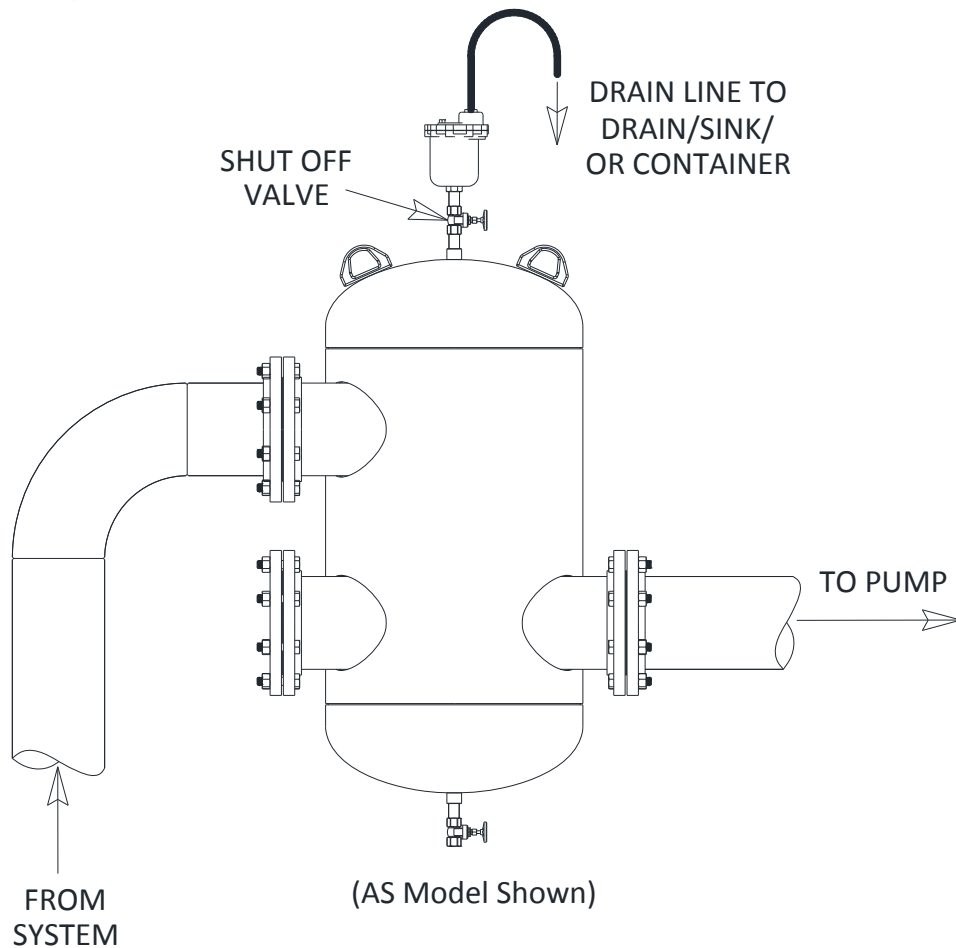

Figure 3-5 Model 720 Air Elimination Installation
2. The Model 720 Air Eliminator should be installed at the top of each air separator (Figure 3-5), or it may be installed at the system piping highest point with a pipe run from the air separator.